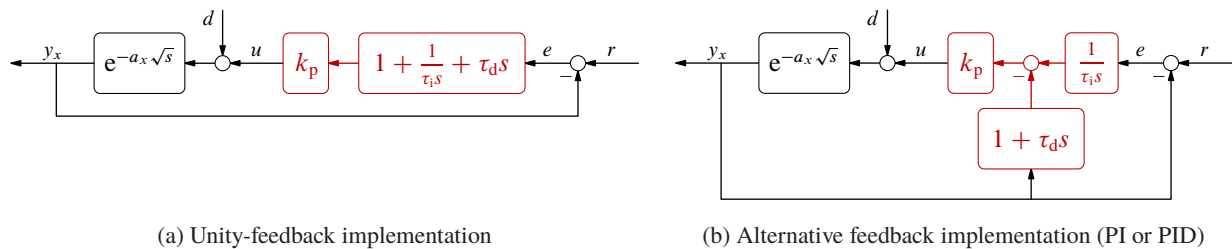

Fig. 1: Closed-loop temperature control in a semi-infinite rod
3. Under the same conditions, design a PI controller, analyze it, and simulate its response under the unity-feedback implementation scheme presented in Fig. 1(a). Compare the response with that under the implementation scheme presented in Fig. 1(b).
4. Under the same conditions, design a PID controller, analyze it, and simulate its response under the unity-feedback implementation scheme presented in Fig. 1(a). Compare the response with that under the implementation scheme presented in Fig. 1(b).